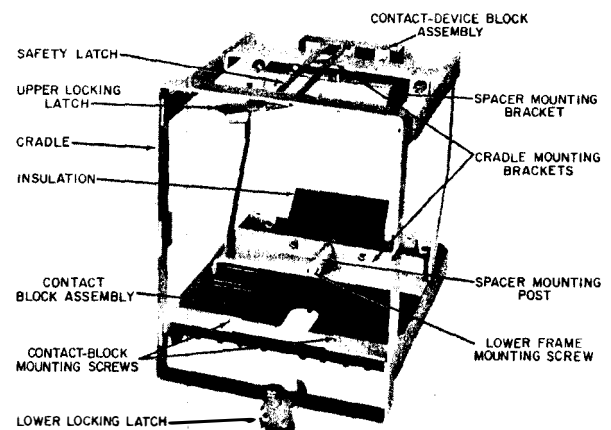

Fig. 5. Cradle for 2-stator meters with assembly removed
1. Remove the cover and slide the cradle out of the meter case. In the DS-50 series, the two screws holding the terminal block to the case must be removed. To completely remove the meter unit from its case, depress the safety latch (see Fig. 5) enough to clear the stop post.